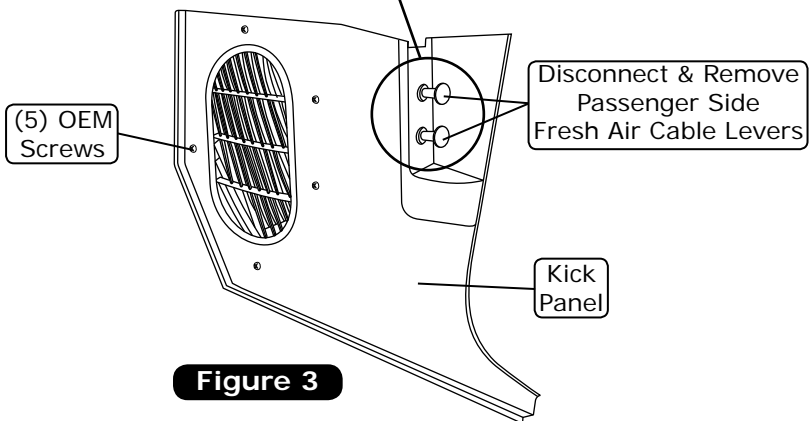

Figure 3
7. Remove the passenger side kick panel by removing (5) OEM screws (retain). Disconnect the passenger side fresh air cables from the panel by removing the clips from the back side of the kick panel (See Figures 3 & 3a, Page 12).